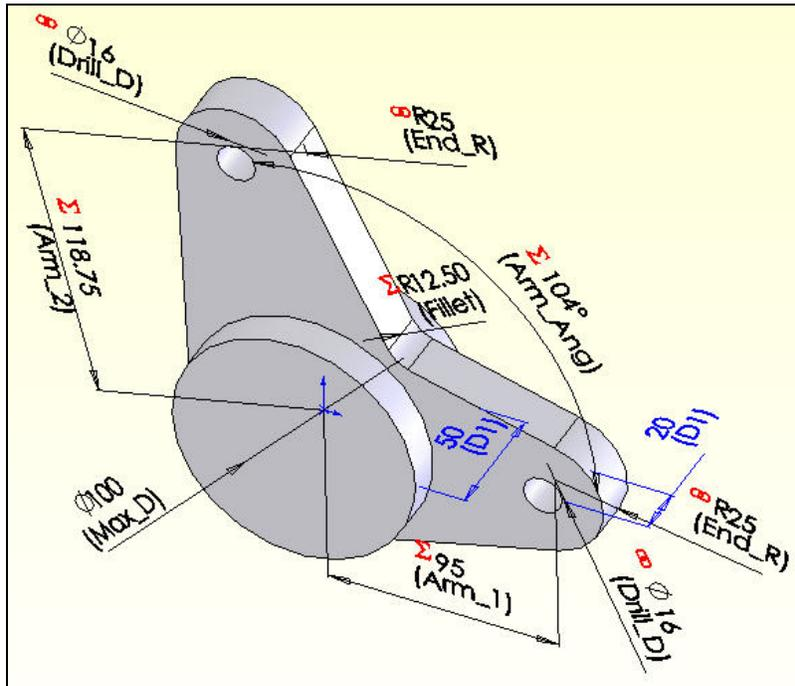

Figure 13 Extruded parametric sketch
4. Pick the regions outside **Max_D** and assign an extrusion length of 20. (Figure 13)